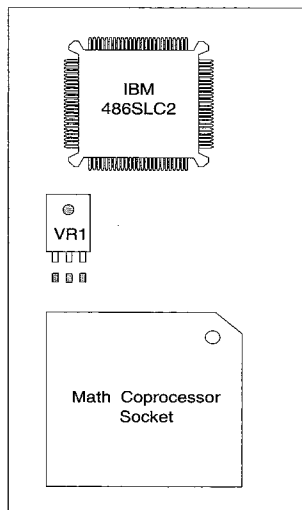

Figure 2. Top View of the 486SLC2 Cached Processor Upgrade Card for the IBM PS/2 Model 25-286 (see **BOTTOM** of upgrade card for location of Pin #1).
13. Next, remove the upgrade card from the protective bag in which it was shipped, being careful to discharge any static electricity in your body before handling the card. Hold the card by the edges at all times. If you wish to install a new math co-processor in your upgrade card, do so at this time. Identify pin 1 of the math co-processor chip (designated by a beveled edge, dot, notch or half moon). Match this corner to the beveled edge on the co-processor socket on the 486SLC2 Cached Processor Upgrade Card. (See figure 2) Carefully insert the co-processor in the socket provided on the top side of the upgrade card. Be sure to align pin 1 on the co-processor with pin 1 in the socket. See figure 2 for the location of pin 1 on the co-processor socket. Firmly press the co-processor module into place. (The pins of the module are easily damaged and must be aligned with the contacts in the socket before pressing the module into place.)